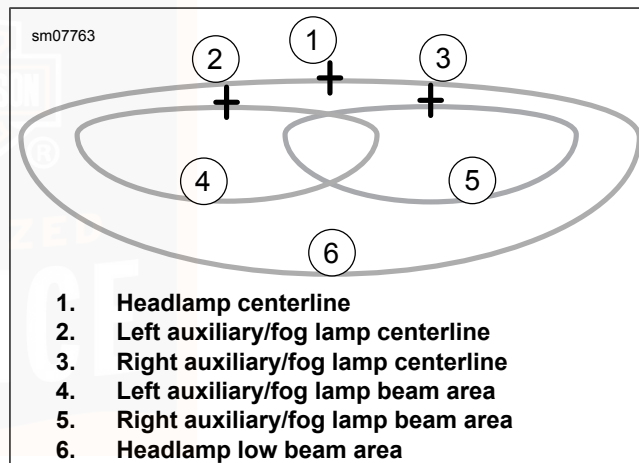

Figure 74. Headlamp Pattern: LED Type with Auxiliary/Fog Lamps
4. See Figure 74. Mark the auxiliary/fog lamp horizontal and vertical centerlines (2, 3) on the wall.
7. Turn on the headlamp low beam and cover both the headlamp and the right auxiliary/fog lamp. Adjust the left auxiliary/fog lamp so the entire high intensity zone (4) is below the centerline as shown in Figure 74.